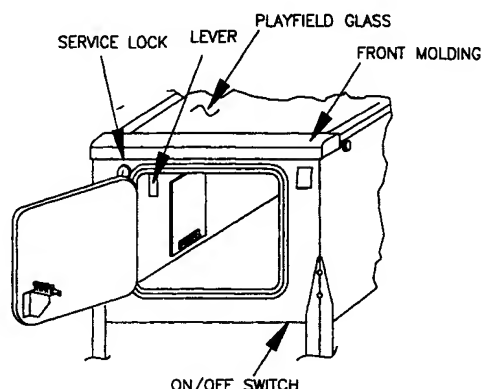

Figure 2
4. Remove the playfield from the cabinet before trying to attach the backbox. To do this, unlock and open the coin door. Pull the yellow lever, (located to the left of the coin door), to the right. The front molding pops up. Lift the molding from the cabinet. Slide the playfield glass down and lift it off of the cabinet. See Figure 2.